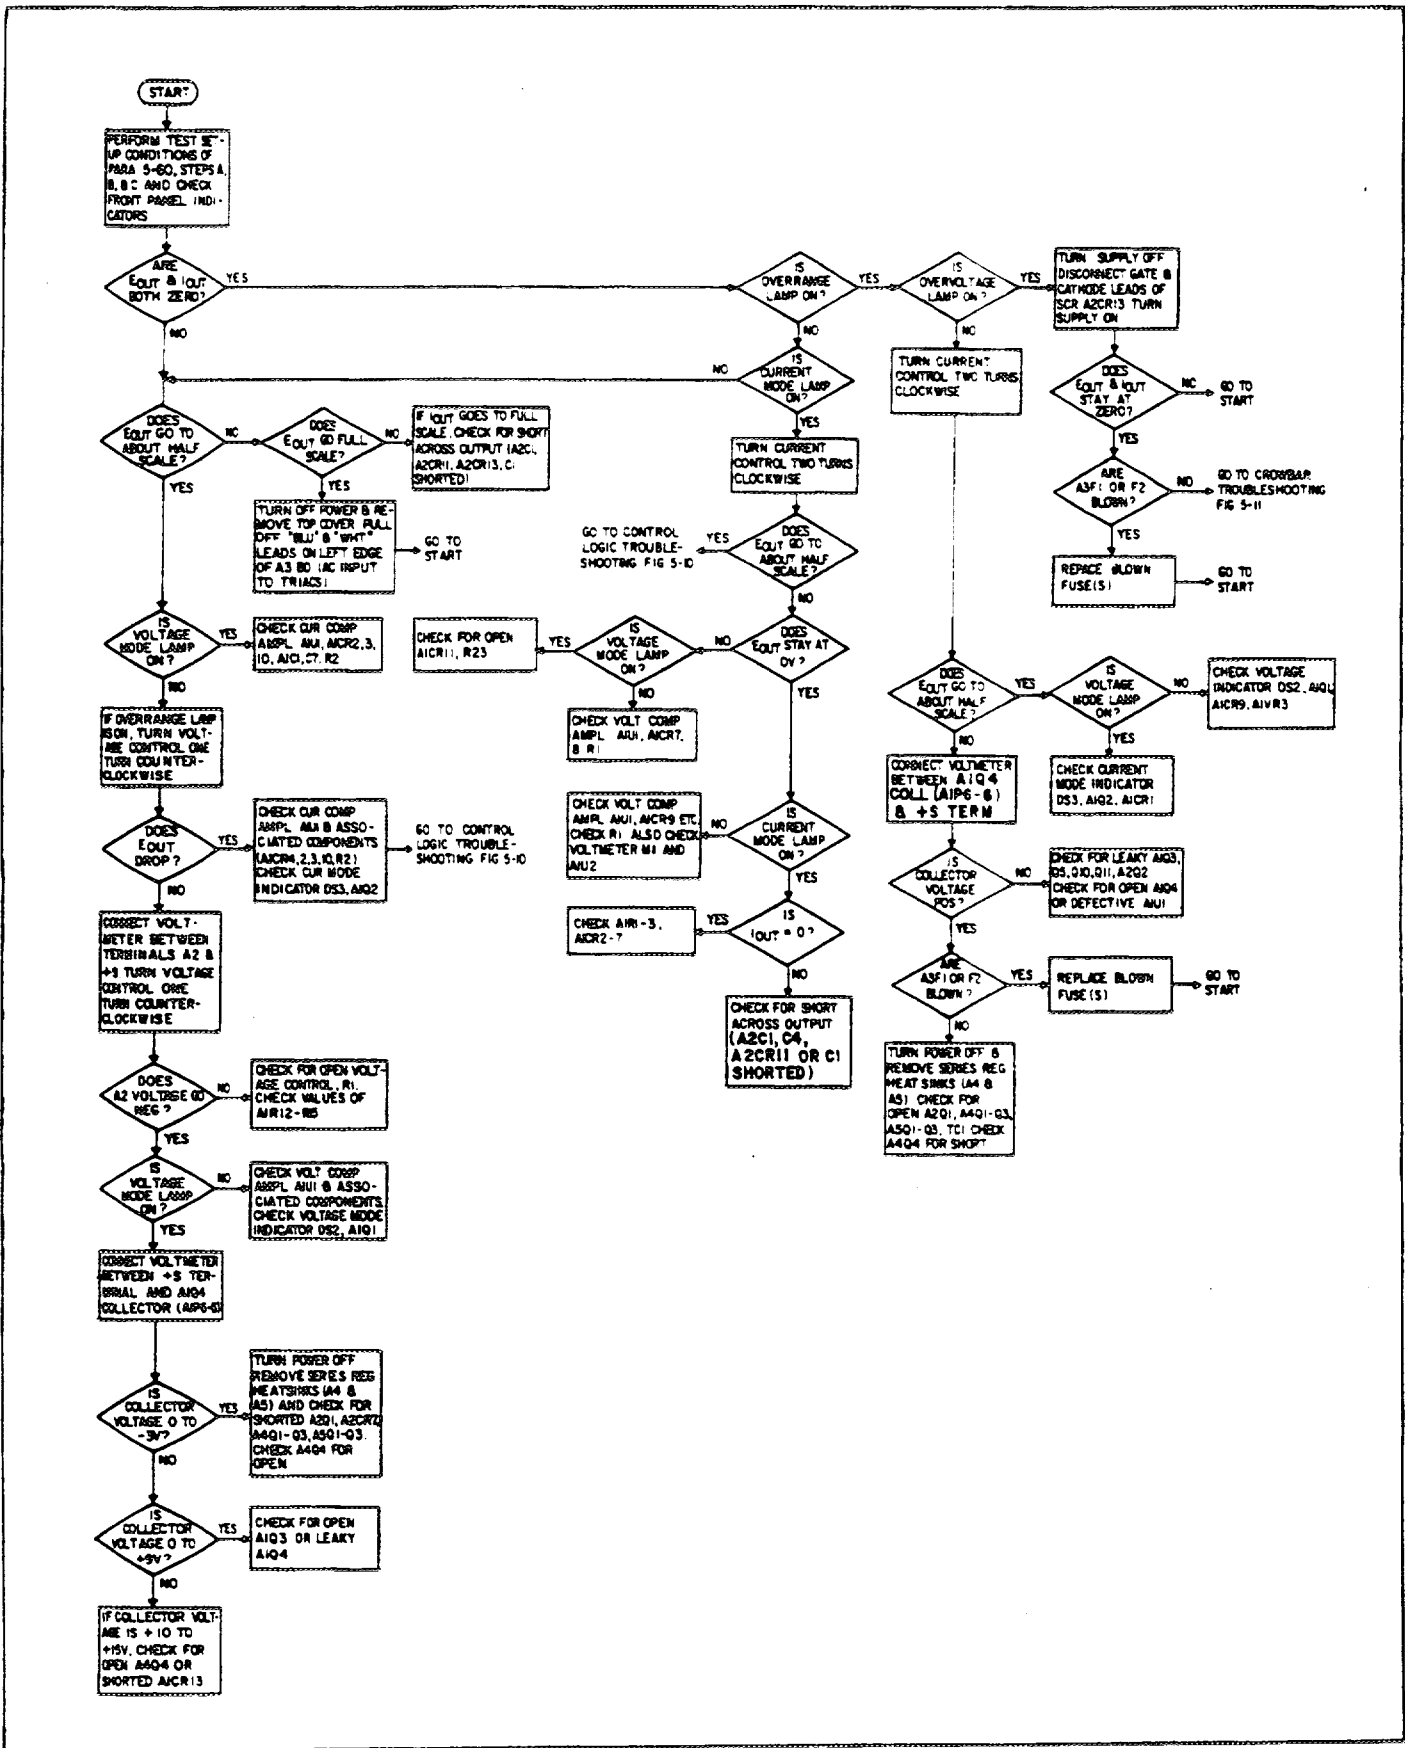

Figure 5-9. Overall Trouble Isolation
**5-62** The OVERRANGE indicator (LED) is also used to provide isolation symptoms during troubleshooting procedures. To verify proper operation of this indicator, turn the OVERVOLTAGE control counterclockwise until the unit crowbars (output voltage falls to near zero). The OVERRANGE indicator should light. If it does not, check A1VR3 for open and the indicator itself. Once this indicator is working properly, proceed to the overall isolation procedures in Figure 5-9.
**5-64** After the reference voltage circuit has been eliminated as a trouble source and operation of the front panel meters has been verified, proceed to the isolation procedures of Figure 5-9.